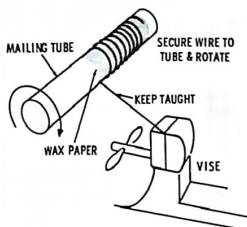

Fig. 1-21. Winding the coil.
3. Secure one end of the wire to a vise or other firm support (Fig. 1-21).